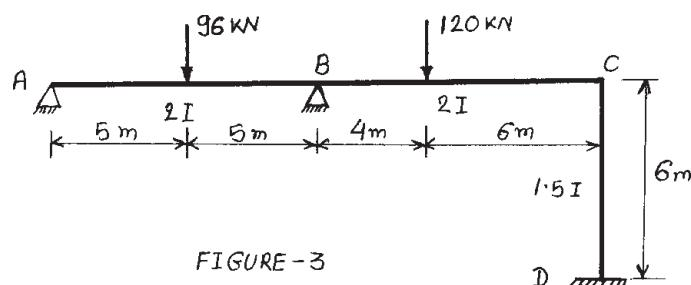

FIGURE -3
- Q3)** The frame is loaded & supported as shown in figure -3. Analyse the frame & plot shear force & bending moment diagram. Use moment distribution method. [16]